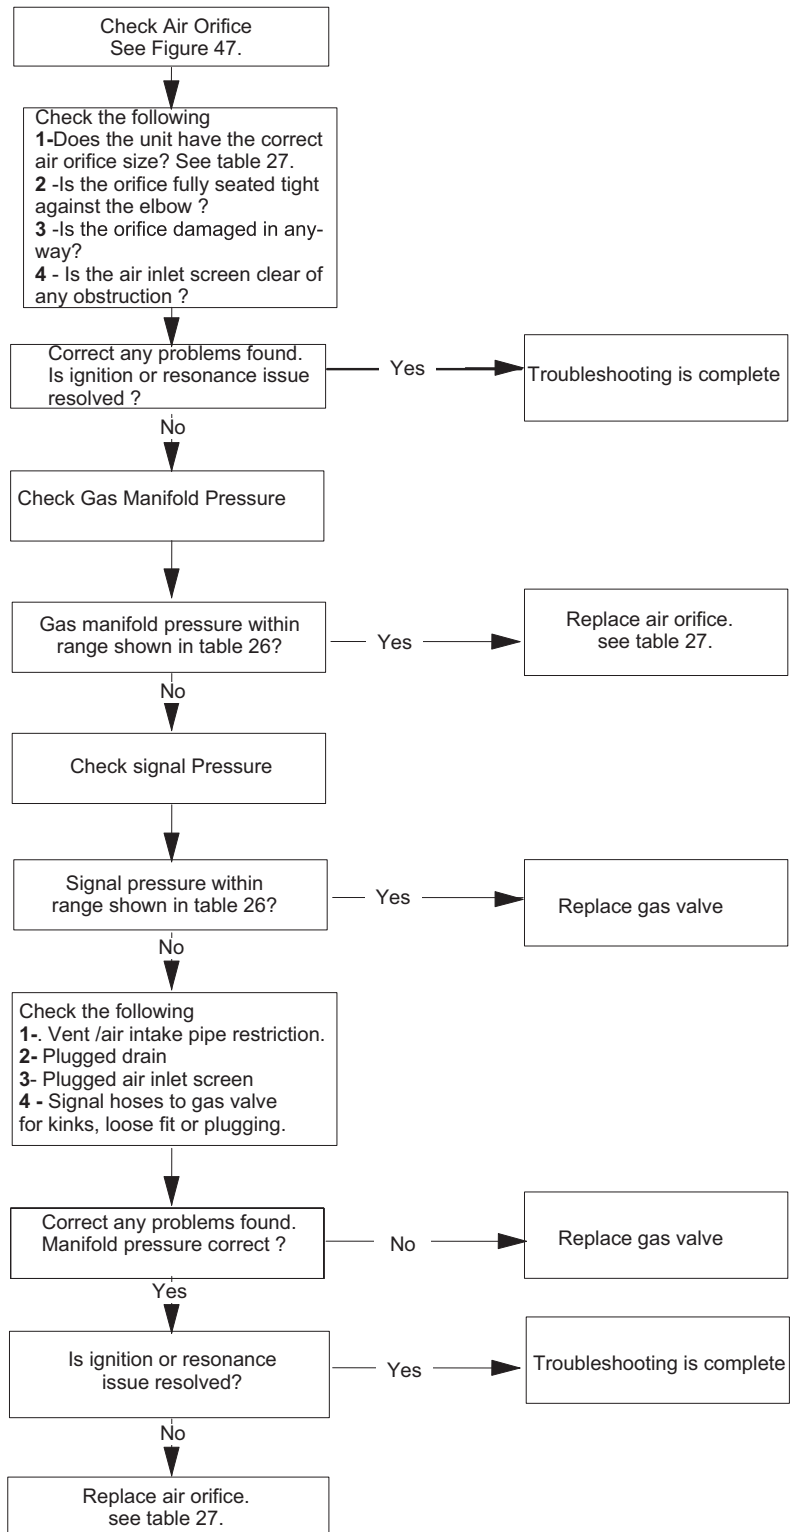

FIGURE 49
- 10 - Repeat manifold and signal pressure check. If unit ignites and manifold and signal pressure are correct, move on to combustion check. If unit still does not ignite or ignites with loud resonance go to Troubleshooting FIGURE 49.